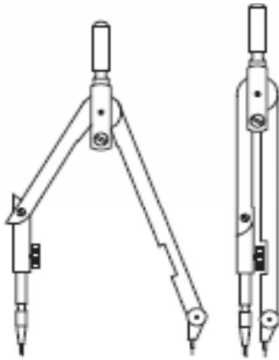

Fig. 1A.8 Compass
**Compass:** It is used for drawing circles and arcs of circles. The compass has two legs hinged at one end. One of the legs has a pointed needle fitted at the lower end whereas the other end has provision for inserting pencil lead. Circles up to 120mm diameters are drawn by keeping the legs of compass straight. For drawing circles more than 150 mm radius, a lengthening bar is used. It is advisable to keep the needle end about 1mm long compared to that of pencil end so that while drawing circles, when the needle end is pressed it goes inside the drawing sheet by a small distance (approximately 1mm). Refer fig. 1A.8